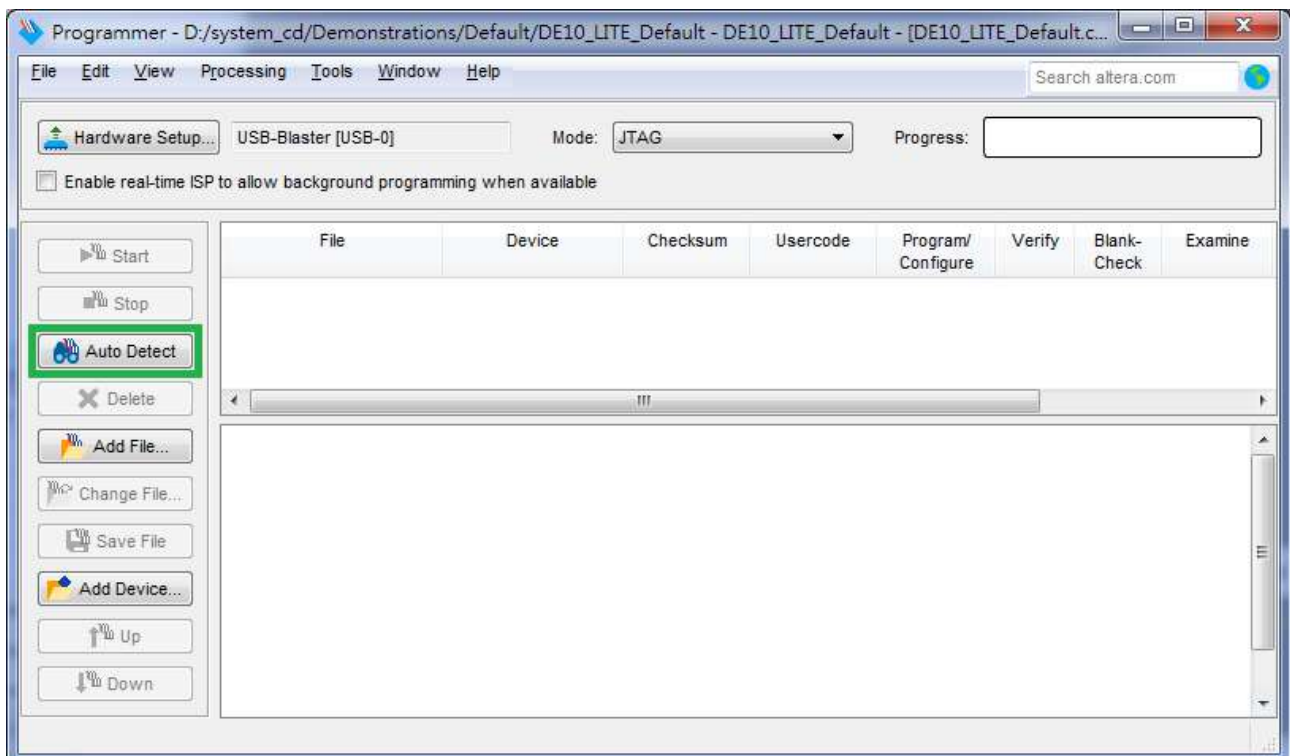

Figure 3-4 Detect FPGA device in JTAG mode
- Click “Auto Detect” to detect all the devices on the JTAG chain, as circled in **Figure 3-4**.